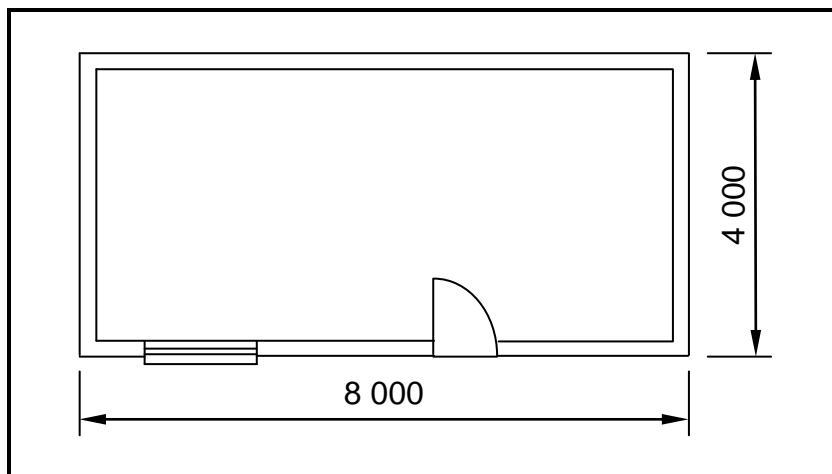

FIGURE 4.3
- 4.3 FIGURE 4.3 below shows the floor plan of a storeroom of which the walls need to be plastered.